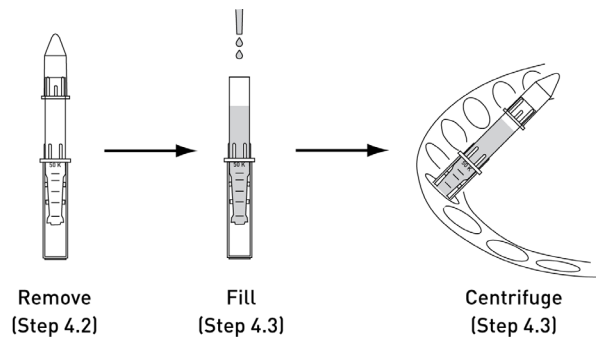

Figure 4 Wash the antibody concentrator
- 4.3 Add 1 mL of 1X Tris, pH 7.0 (or TBS) to the large antibody concentrator (Component I) as shown in Figure 4.
- 6.2 Add 1X Tris, TBS, or PBS to a total volume of 2 mL to the large antibody concentrator (Component I) as shown in Figure 4 (page 5).